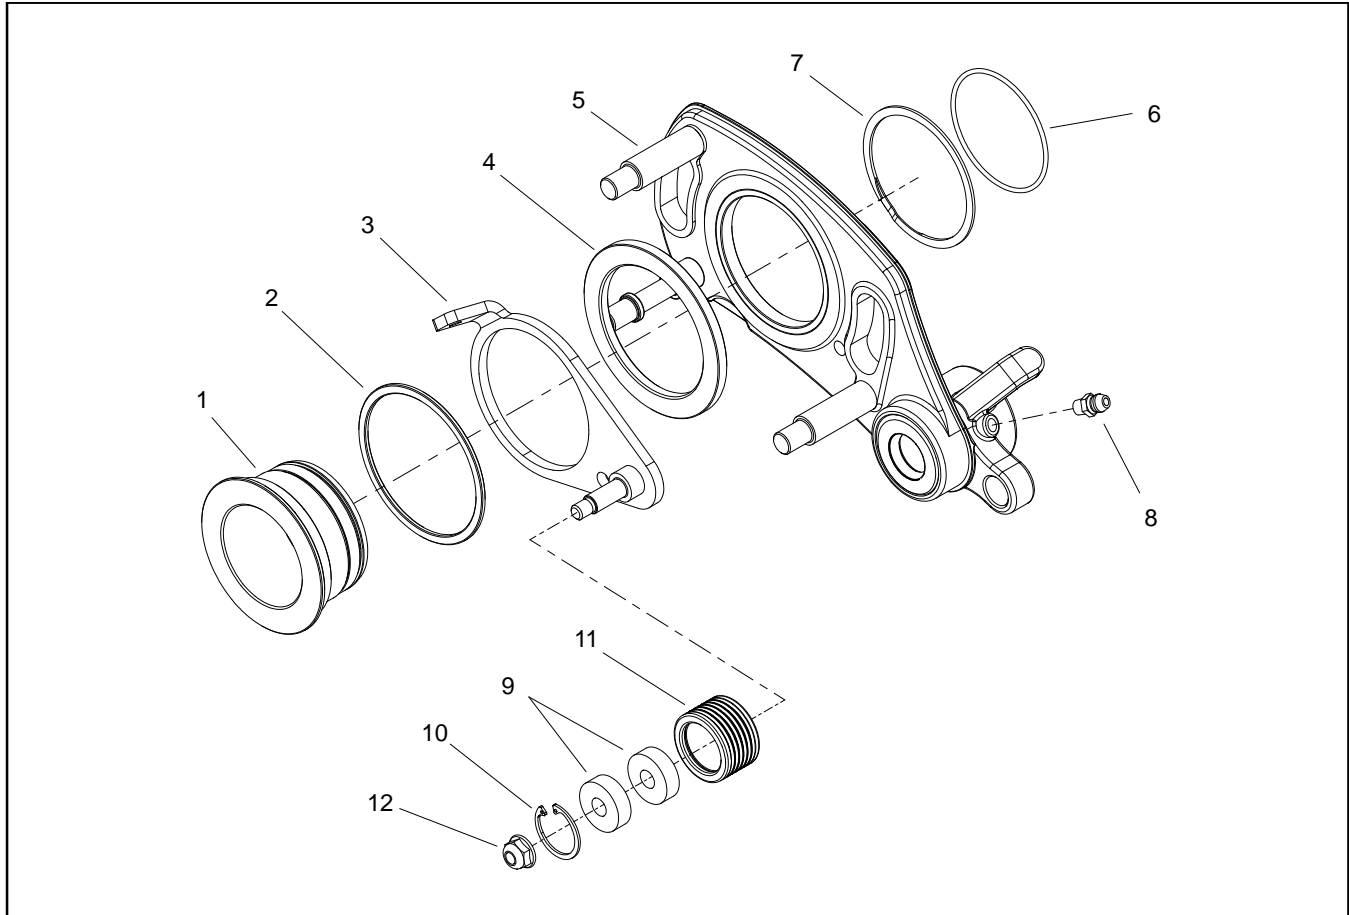

Figure 24
3. Using Figures 24 and 25 as guides, remove idler bracket, idler pulley and/or idler bearings as needed.
1. Assemble components using Figures 24 and 25 as guides.